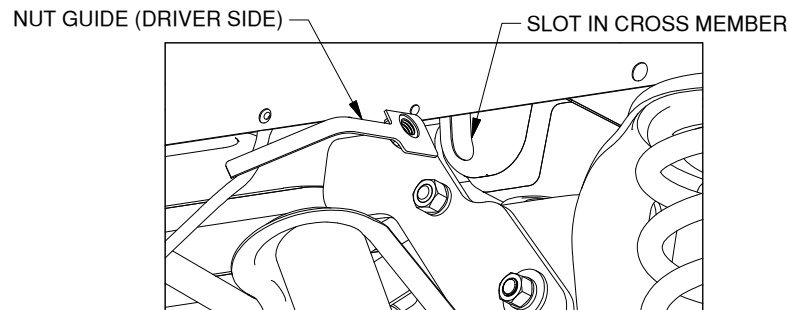
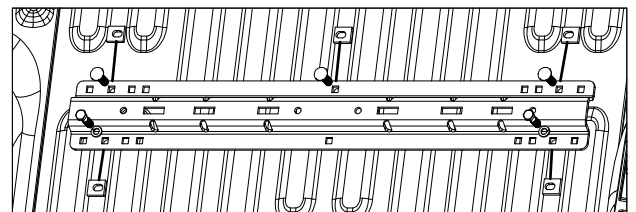

Figure G2: View looking into driver side wheel well.
Figure G3: View looking down into the truck bed.
2. **Install the forward mounting rail.** Re-position the forward mounting rail over the drilled 9/16" holes in the bed. Place a 5/16" thick offset spacer between the bed and the mounting rail at the five drilled positions. The nut guides will need to be positioned under the 9/16" hole by passing the nut on the nut guide through the vertical slot on the end of the bed cross member and turning it so the nut is on the bottom of the guide, see Figure G2. Hold the nut under the 9/16" hole while a 1/2" x 2" cap screw with a 1/2" lock washer is passed down through the forward mounting rail from the top of the bed and threaded into the nut guide by another person. Place a 1/2" x 2" carriage bolt through the three remaining drilled locations, see Figure G3. Attach each of the carriage bolts with a flat washer, lock washer, and nut. The center carriage bolt will need a 2" x 1-1/2" x 5/16" spacer instead of the flat washer. Hand tighten each nut and cap screw.